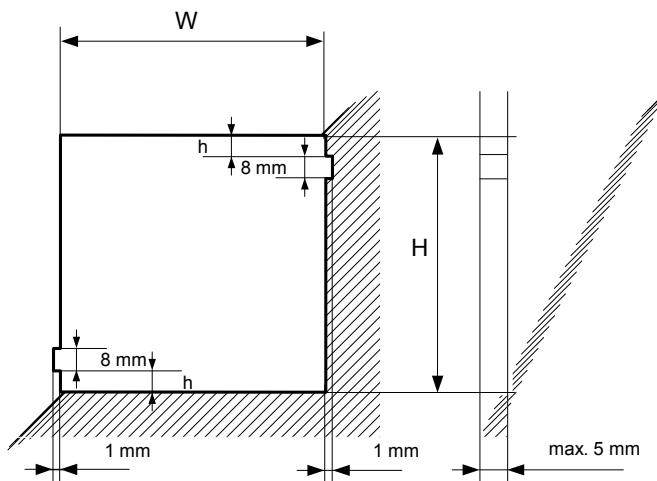
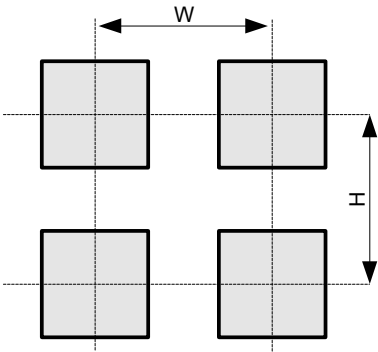
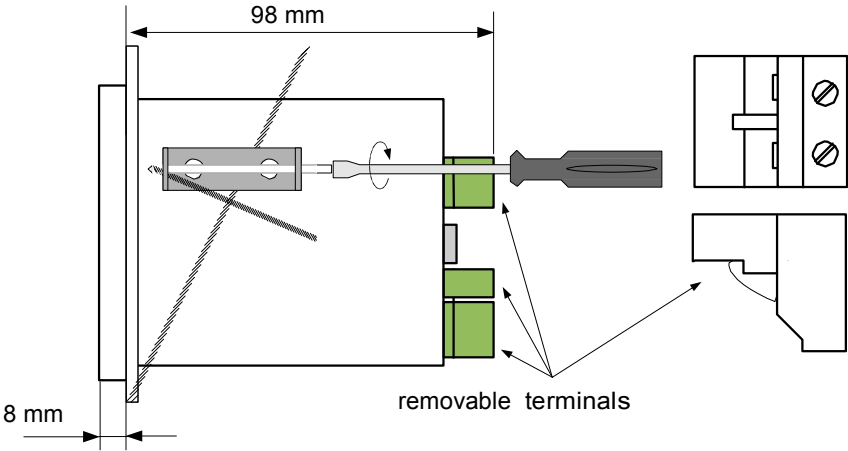

Fig. 4.2. Mounting hole dimensions
Fig. 4.3. Minimum distances when assembly of a number of units
Fig. 4.4. Installing of brackets
- In order to install the unit, a mounting hole must be prepared according to Fig. 4.2. The thickness of the material of which the panel is made must not exceed 5mm. When preparing the mounting hole take the grooves for catches located on both sides of the housing into consideration (Fig. 4.2). Place the unit in the mounting hole inserting it from the front side of the panel, and then fix it using the brackets (Fig. 4.4). The minimum distances between the centre points of multiple units - due to the thermal and mechanical conditions of operation - are shown on Fig. 4.3.